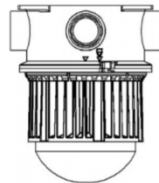

Figure 5 - Connect wiring harness
- 7. Connect orange wiring harness connector coming from Q-Hub to orange connector on the Q-Lux light. Make sure connection is secure. Figure 5.